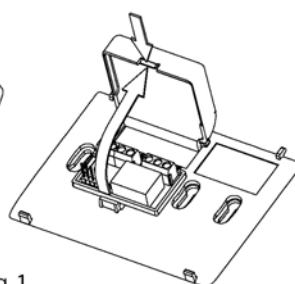

Fig. 2
- Remove the terminal protection cover (see fig. 2)